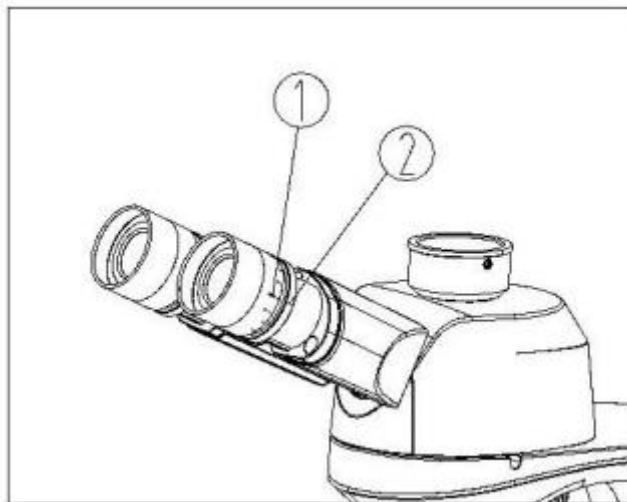

Figure 28
2. To tighten the focusing arm, rotate the tension adjustment ring (1) in the direction indicated by the arrow; to loosen it, rotate it in the opposite direction.
Align the "0" mark on the diopter adjustment ring (1) with the scale (2), then adjust the focus to obtain a clear image. Next, observe through the other eyepiece and rotate the diopter adjustment ring until the image is clear. (See Fig. 28)